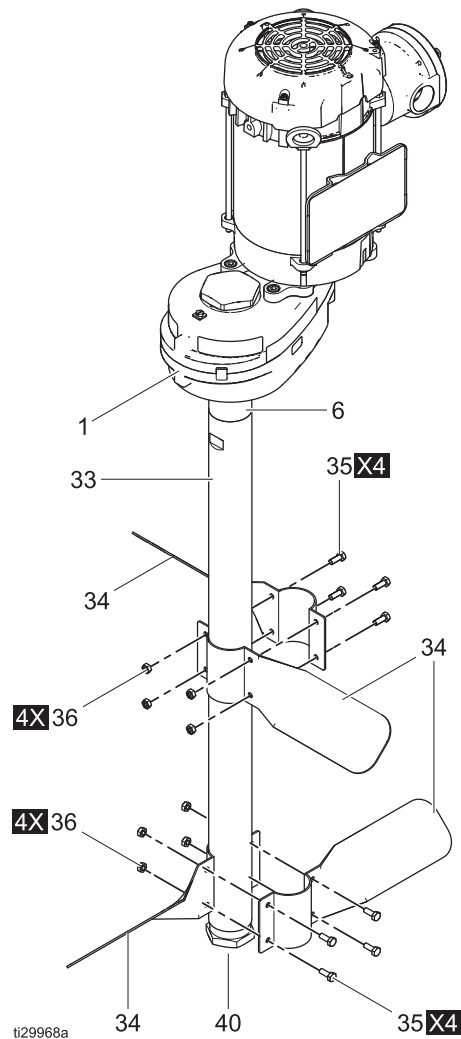

FIG. 3: Agitator Shaft and Blades
1. Replace the bottom plug (40) with the plain bearing (37d), and tighten the bearing with a wrench. See FIG. 3.
3. Replace the top plug (26) with the siphon tube retainer/o-ring just assembled. Leave the retaining nut (37c) on the siphon tube retainer, but make sure it is not tightened. Tighten the siphon tube retainer/o-ring into the top of the agitator housing with a wrench.